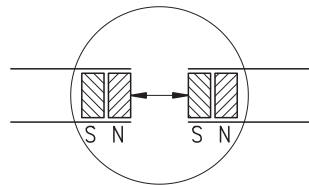

Fig. 9: Determination of the pole position. Joining the magnetic strip
- Check polarity before joining the two parts. Both ends must attract each other (if necessary, use compass needle). In case both ends have the same polarity, shorten one end by a half pole division (fig. 9).